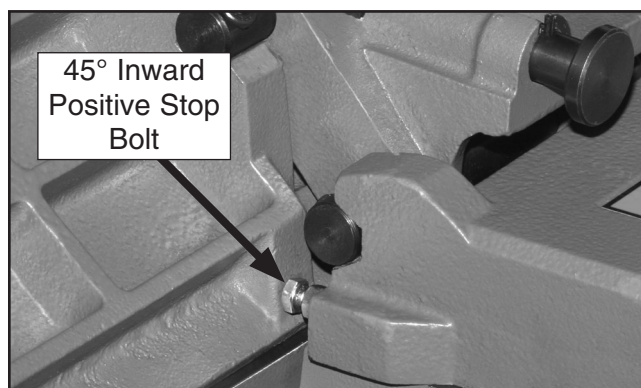

Figure 62. 45° inward positive stop bolt.
2. Loosen the jam nut on the 45° inward positive stop bolt shown in **Figure 62**.